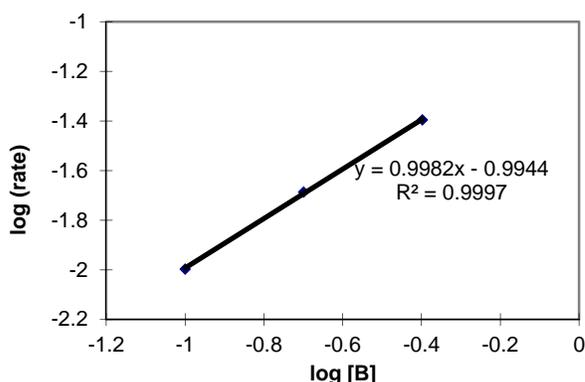

Figure 2: Initial rate determination of the order with respect to B. The plot is the log (rate) versus log [B].
(2). The value of “ y ” can be determined by plotting $\log(\text{rate})$ vs. $\log[\text{B}]$ for experiments 1-3. This yields a slope of about 1, Figure 2. Therefore $y = 1$, within experimental uncertainty.